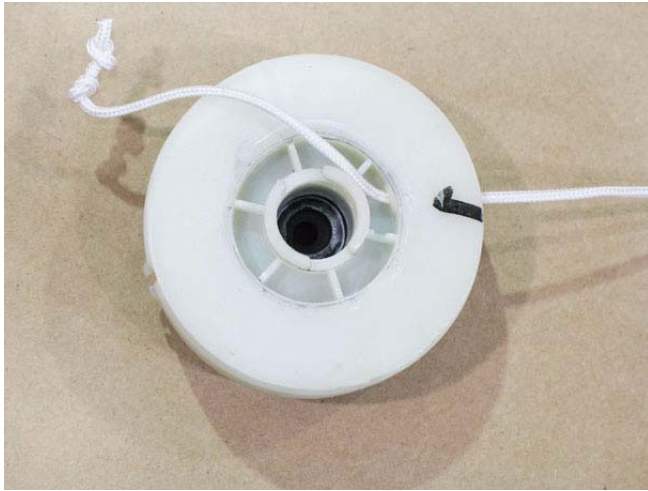

Figure 8.4
- Pull the knot out of the pulley and untie it. See Figure 8.4.